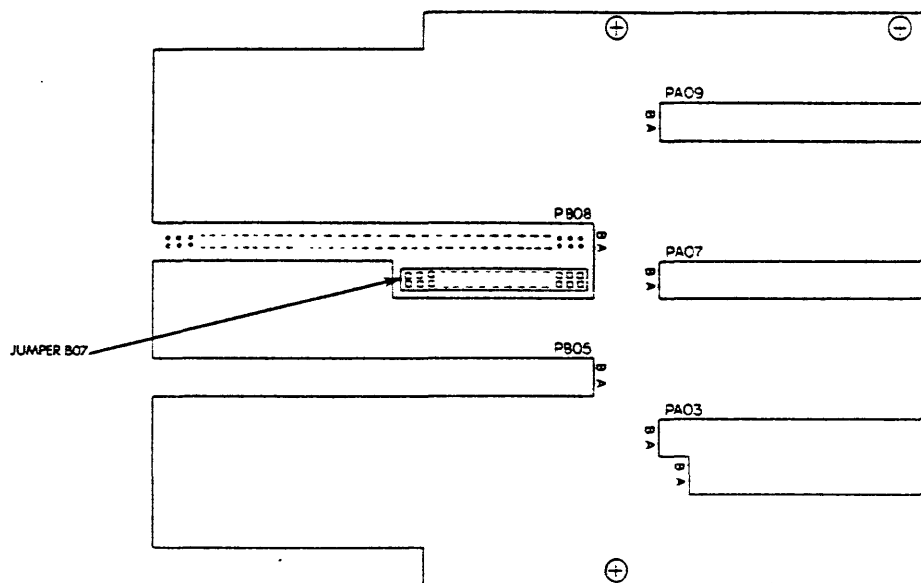

Figure 9-7. 9762 Backplane Slot B07 Grounding Plug
- B-cable continuous** On newer drives (series code 39 and later), the B-cable signals must be enabled by removing the grounding plug on slot B07 of the backplane (see Figure 9-7).